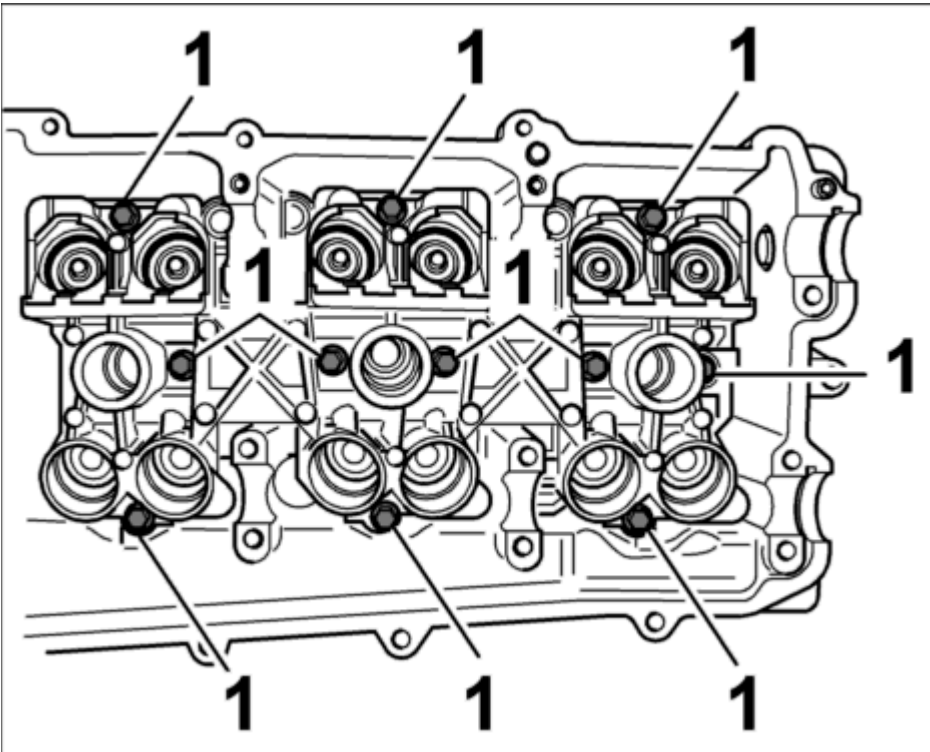

Fig. 179: Flat-base tappet housing bolts
2. Fit flat-base tappet housing with 11 M6 x 35 Torx screws -1- and tighten screws from the inside out. --> **Tightening torque: 10 (7.5 ftlb.) Nm** . See **Fig. 179**.